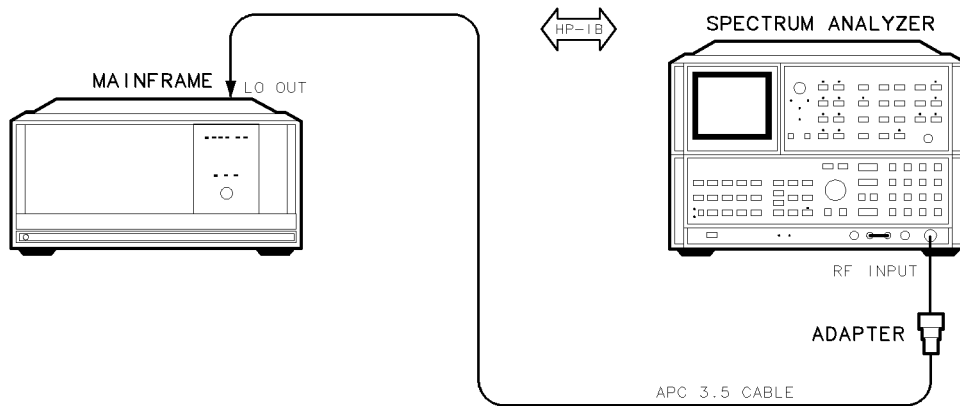

Figure 7-3. LO Output Power and Harmonics Test Setup
1. Connect the HP 8566B spectrum analyzer’s RF INPUT to the DUT’s rear panel LO OUT jack using the adapter, as shown in Figure 7-3.